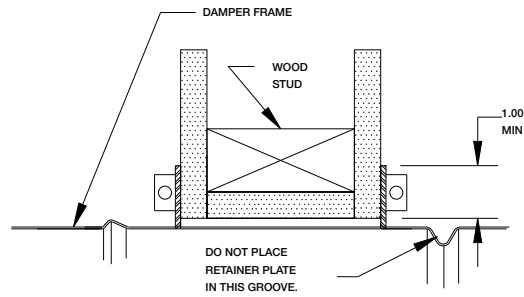

Figure 3: wood stud
- Prepare opening between studs and sleeve assembly as shown below (see **Figure 3 & 4**).